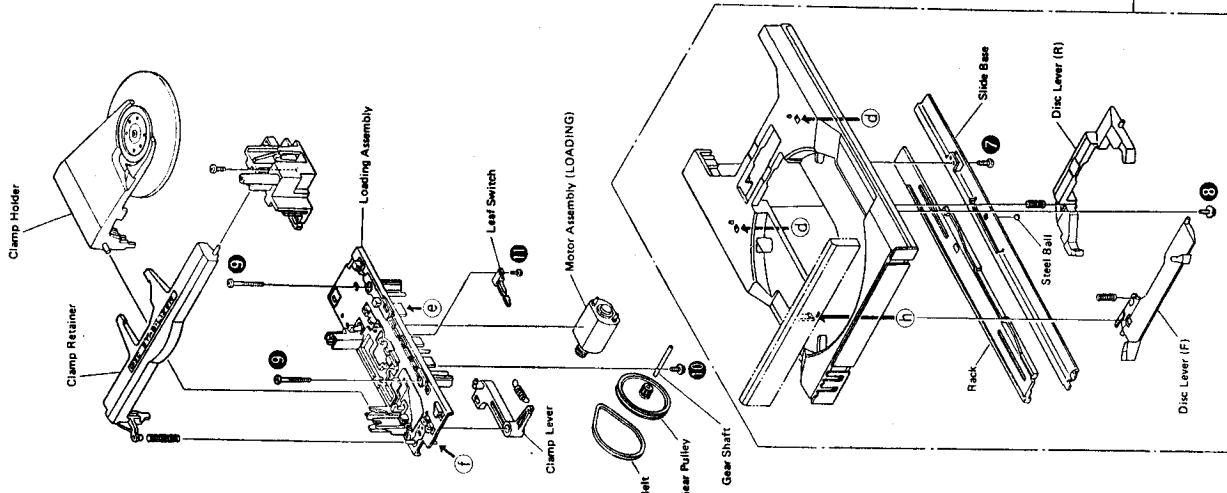

Fig. 4-2 Parts disassembly (Loading mechanism and Tray assembly section)
2. While pulling the clamp holder (B) (see Fig. 4-2) upward with the right hand, hold the tray as indicated by (C) in the left hand and pull it outward. Take care not to allow the  $\phi 4$  steel ball to fall (we recommend holding the ball in place with the left index finger while extracting the tray).